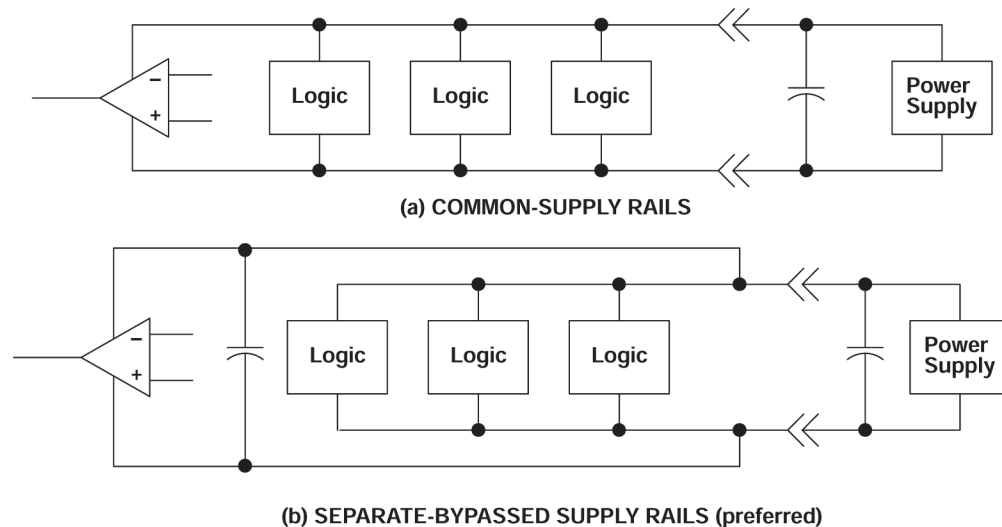

Figure 7-1. Common Versus Separate Supply Rails
- Power the linear devices from separate bypassed supply lines (see Figure 7-1); otherwise, the linear device supply rails potentially fluctuate as a result of voltage drops caused by high switching currents in the digital logic.